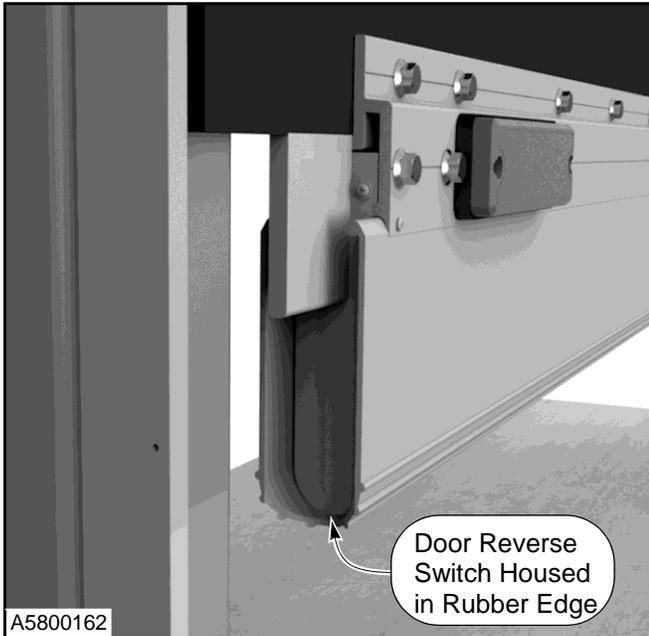

Figure 12
3. When the door is a few feet from the fully closed position, hit the rubber reversing edge that runs along the bottom edge of the door. Stand outside the photo eyes to avoid activating the photo eye circuit. (See Figure 12)